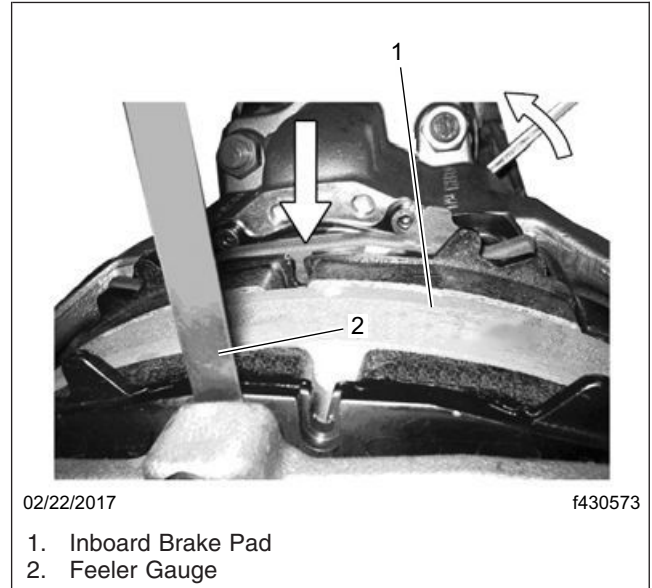

Fig. 5, Adjusting the Clearance
14. Using a 0.047 inch (1.2 mm) feeler gauge, adjust the clearance. See the arrow in Fig. 5. Insert the feeler gauge between the brake pad of the rim side and the brake caliper.